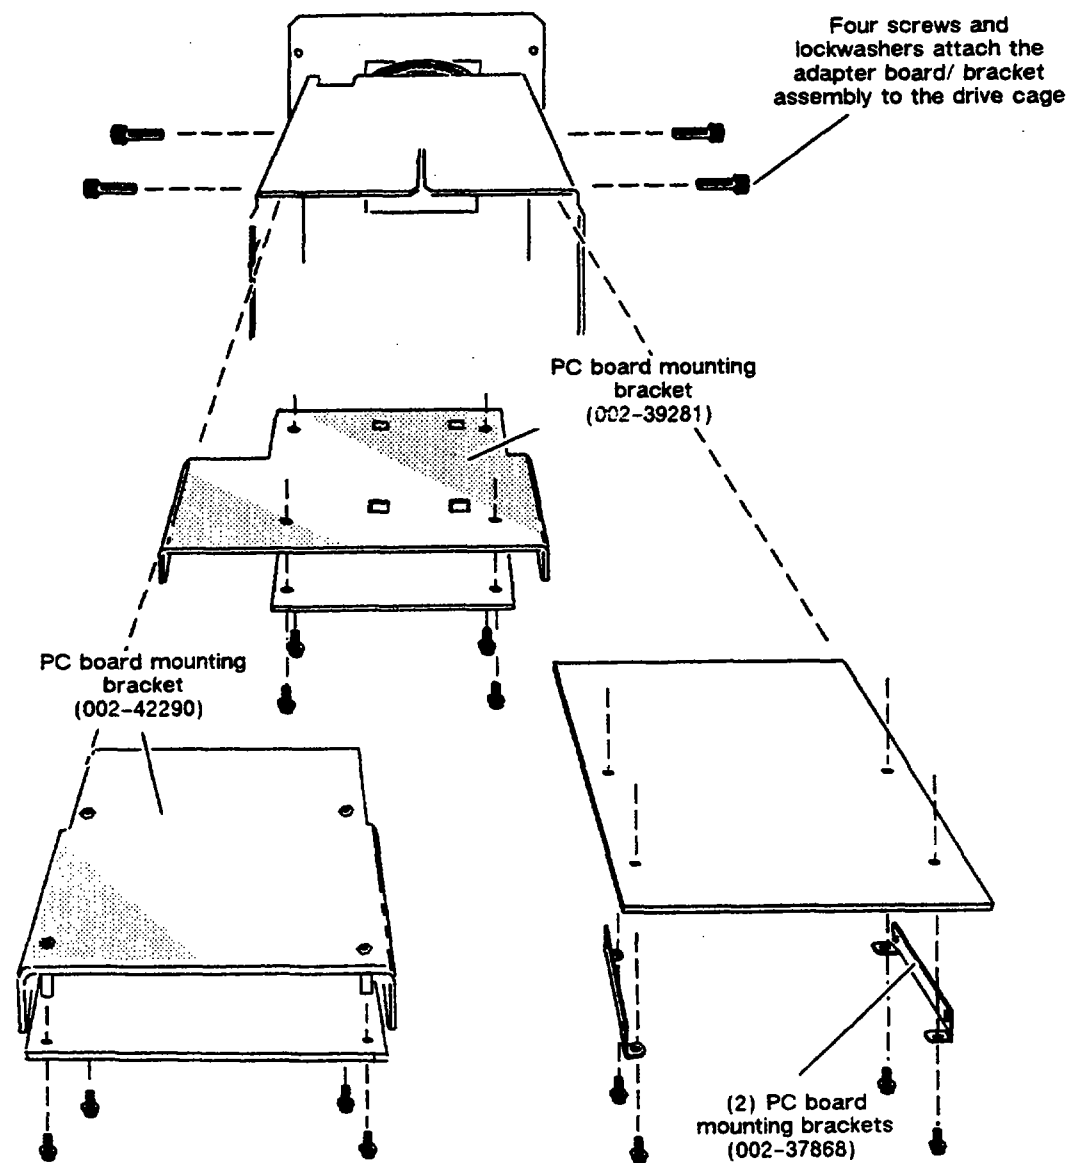

Figure 4-6 Attaching an Adapter Board to a Bracket, and Mounting Board/Bracket Assembly in a PHU
Some drives require an adapter printed circuit (PC) board. When you install one of these drives in a PHU, you will need also to install the board. The PHU can accommodate one PC board. Figure 4-6 shows the location above the top drive where you install a board. The figure also shows the three different board mounting brackets that the PHU uses. The mounting bracket you use depends on the board that you are installing. Table 4-1 lists the drives that require adapter boards and the bracket you must use to mount the adapter board in a PHU.
When you add a mass-storage drive to a PHU, refer to the manual for the drive to see if the drive requires an adapter board. Directions for setting the adapter board's jumpers and connecting cables between the drive and the adapter board are also included in this manual. Refer to Figure 4-6 to attach the adapter board to the bracket and to the PHU.